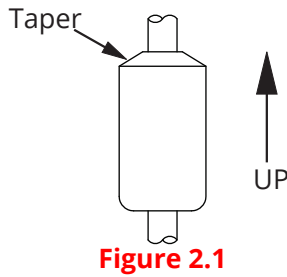

Figure 2.1
- The float(s) is/are oriented properly on the stem (See Figure 2.1). MPI-T floats are typically installed by customer.